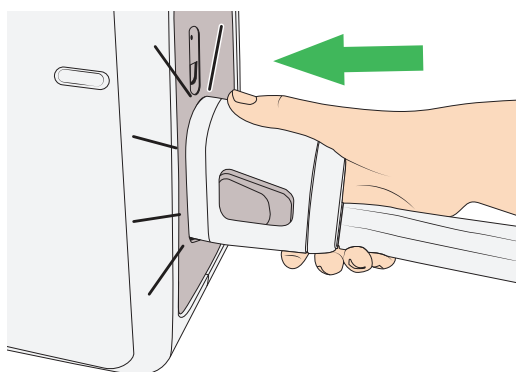

Figure 44
7. Connect the tube-set to the Auralis pump. Make sure the tube-set clicks into place. See Figure 44